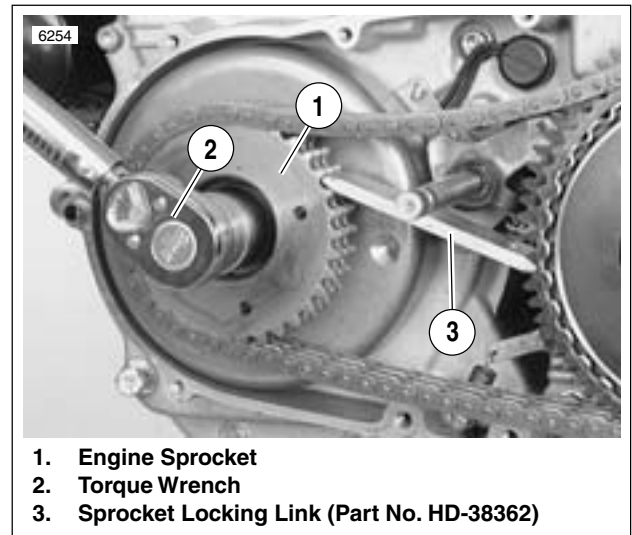

Figure 6-21. Sprocket Locking Link
2. See Figure 6-21. Install the engine sprocket nut.
- a. Place SPROCKET LOCKING LINK (3) (Part No. HD-38362) between primary chain and engine sprocket.